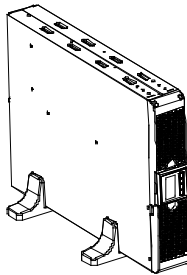

Fig 2
2. Place down the UPS into two stands carefully (Fig 2).